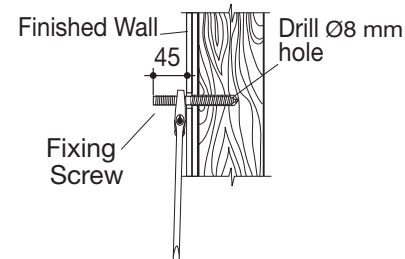

Fig. 2
- 3- Insert expansion fasteners into the drilled holes in masonry wall. Screw Fixing Screws into the wall using the flats located on the screws section of the stud and spanner as shown in **Figure 2**. Allow 45mm of thread to protrude from the finished wall.